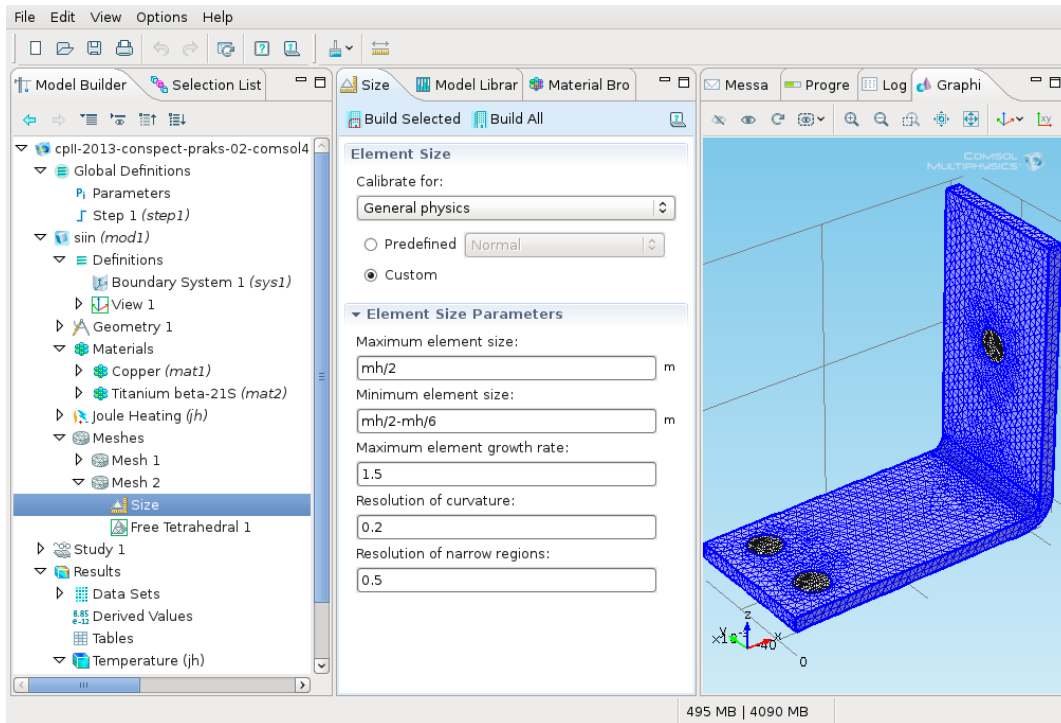

Figure 5: The parameters of the new mesh.
**4** *Model Builder* → *Mesh 2* → *Size* → *Element size* → *Custom* (Fig. 5):